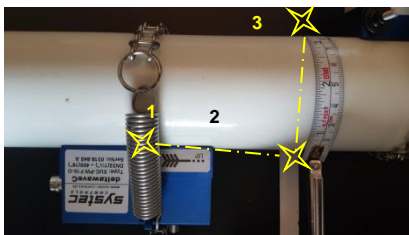
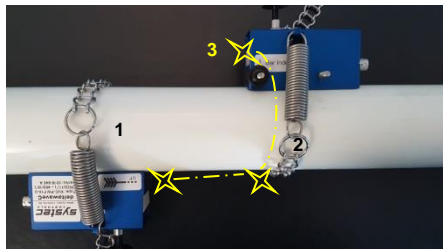

Figure 19: Mark the position of the second transducer at half circumferential distance
Figure 20: Mounted transducer, Z-mounting
- 6. Mount the second sensor to the centre of the sensor front (not the sensor) at mark 2 (see Figure 19 & Figure 20). The sensors are now exactly opposite.